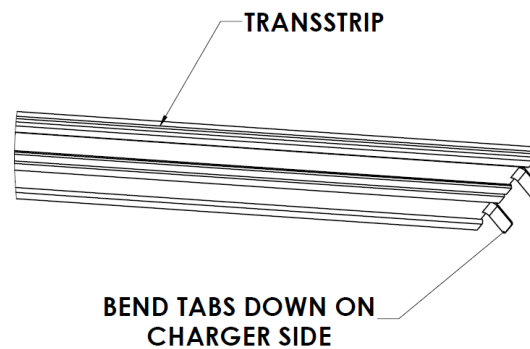

Figure 33: **Bend the Male Terminal Tabs Approximately 45°**
e. Use pliers to bend the male terminal tabs approximately 45° (Figure 33).